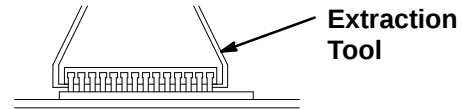

Fig. 3
6. Use a chip extraction tool to carefully remove the three software chips from their sockets. Pull the chips directly up. See Fig 3.